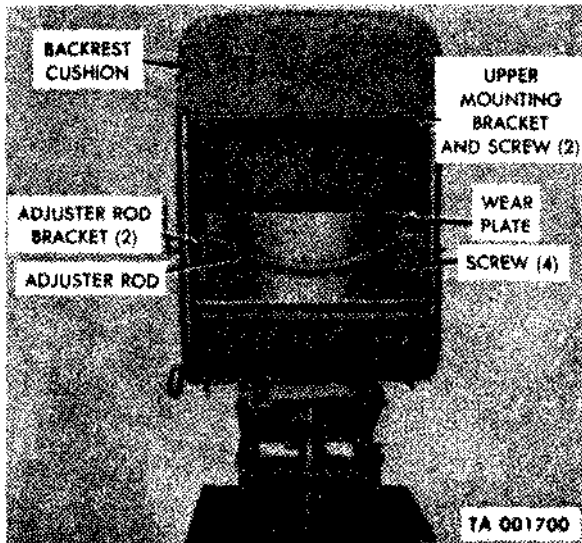

Figure 2-219.5. Driver's seat backrest cushion removal and installation
a. *Removal* (fig. 2-219.5). Remove seat assembly from cab (2-239.1a above). Remove four screws securing backrest cushion to adjuster rod brackets and remove wear plate. Remove four screws securing upper mounting brackets to backrest cushion and remove cushion from seat frame.
b. *Installation* (fig. 2-219.5). Position cushion on seat frame and secure to frame with two upper mounting brackets and two screws. Position wear plate between cushion and adjuster rod brackets. Secure adjuster rod brackets and wear plate to cushion with four screws. Install seat in cab (2-239.1b above).